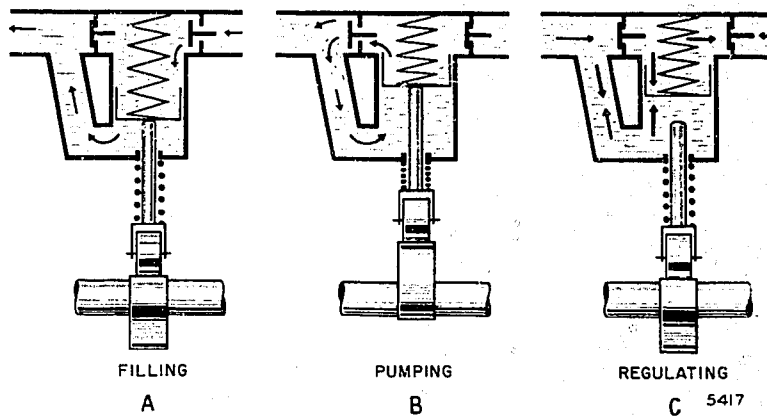

FIGURE 3 - SCHEMATIC DIAGRAM OF SUPPLY PUMP OPERATION
1. As the plunger moves inward (downward in Figure 3 A), the increasing volume above the plunger creates a suction which opens the inlet valve and closes the outlet valve. The suction effect causes fuel to flow from the tank and fill the chamber above the plunger.
As the injection pump cam rotates from base circle toward the top-of-stroke position, the supply pump plunger is forced away from the camshaft (Refer to Figure 3 B). This action creates pressure in front of the plunger which closes the inlet valve and opens the outlet valve. Further outward movement of the plunger forces the fuel trapped in front of it through the outlet valve. However, since the decreasing volume above the plunger equals the increasing volume below the plunger, no fuel is supplied to the injection pump; it only moves from the chamber above the
The above pumping cycle will continue as long as the injection pump uses enough fuel to prevent the fuel pressure from balancing the spring force on the plunger. When the fuel supply pressure balances the spring force on the plunger, the supply pump plunger remains stationary in the outward position (Refer to Figure 3 C) despite cam movement. This action prevents further pumping until the pressure drops enough to permit the plunger to resume operation. The pumping and self-regulating cycles are completely automatic and continue as long as the engine is running.